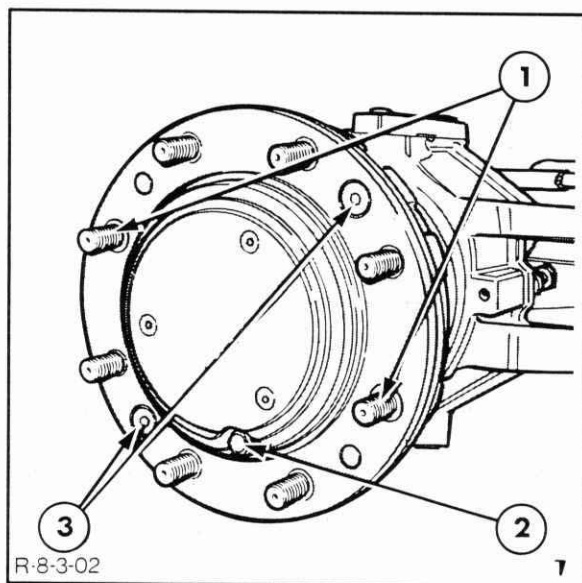

Figure 7-69
4. Remove the two 8 mm socket screws and the two shouldered wheel studs, Figure 7-69, securing the planetary carrier assembly to the hub assembly.